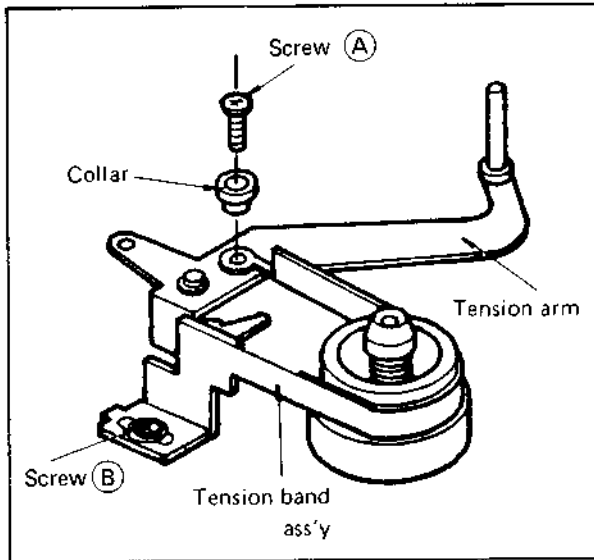

Fig. 4-44
1. Take out screws A and B, then remove the tension band. See Fig. 4-44.